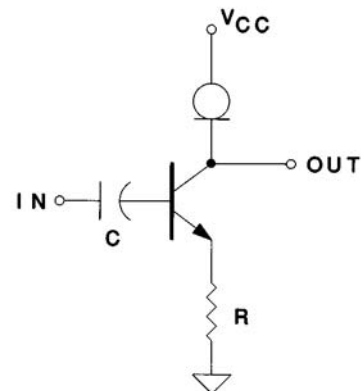

Figure 11. Collector Load
**Collector Load**—The voltage gain of a common emitter amplifier can be increased five to ten times by replacing the collector load resistor with a CLD (Figure 11). To maintain this gain the amplifier must be lightly loaded (high  $Z$  load) and must be prevented from bottoming or switching off.